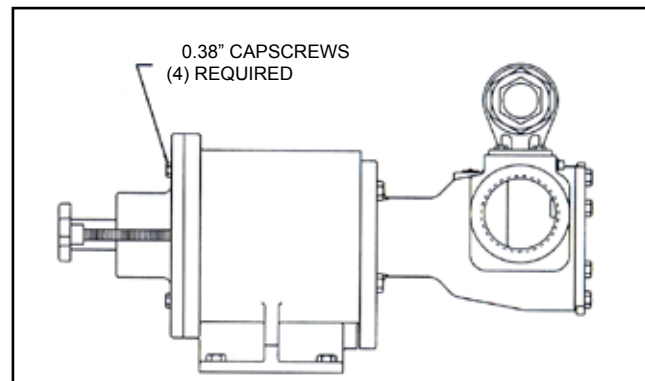

FIGURE 40
5. Install the (4) 0.38" capscrew. Turn the output shaft over by hand to make sure the pump rotates freely. **See Figure 40.**